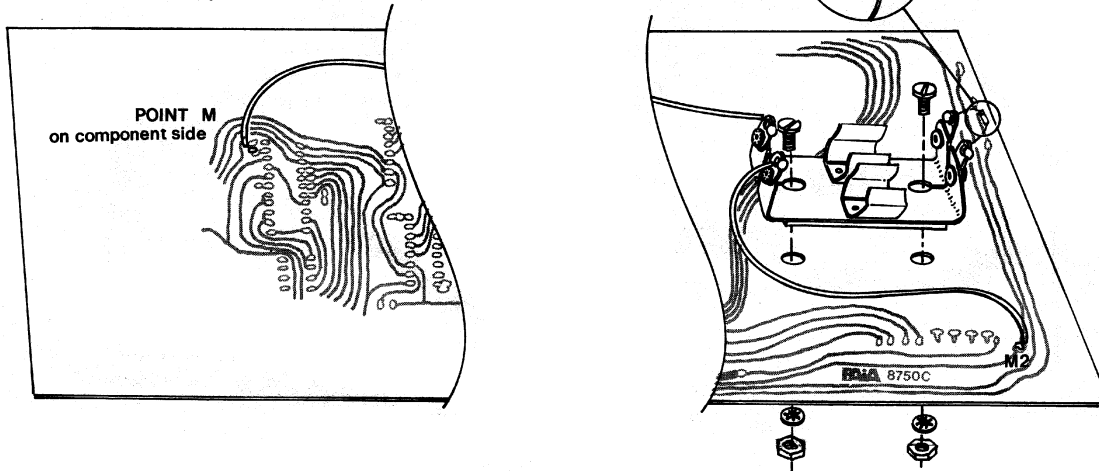

Figure 19: Battery Clip, Diode Installation, and Wiring Locations
- ( ) Using the two 4-40 X 1/4 machine screws, two 4-40 nuts and pair of lockwashers provided, mount the battery clip as shown in figure 19. Tighten the hardware securely, but do not over-tighten.
- ( ) In a manner similar to that described above use a 3 1/2 inch (8.9 cm) length of insulated wire to connect the lower left lug of the battery clip to pad "M2" illustrated in figure 19.